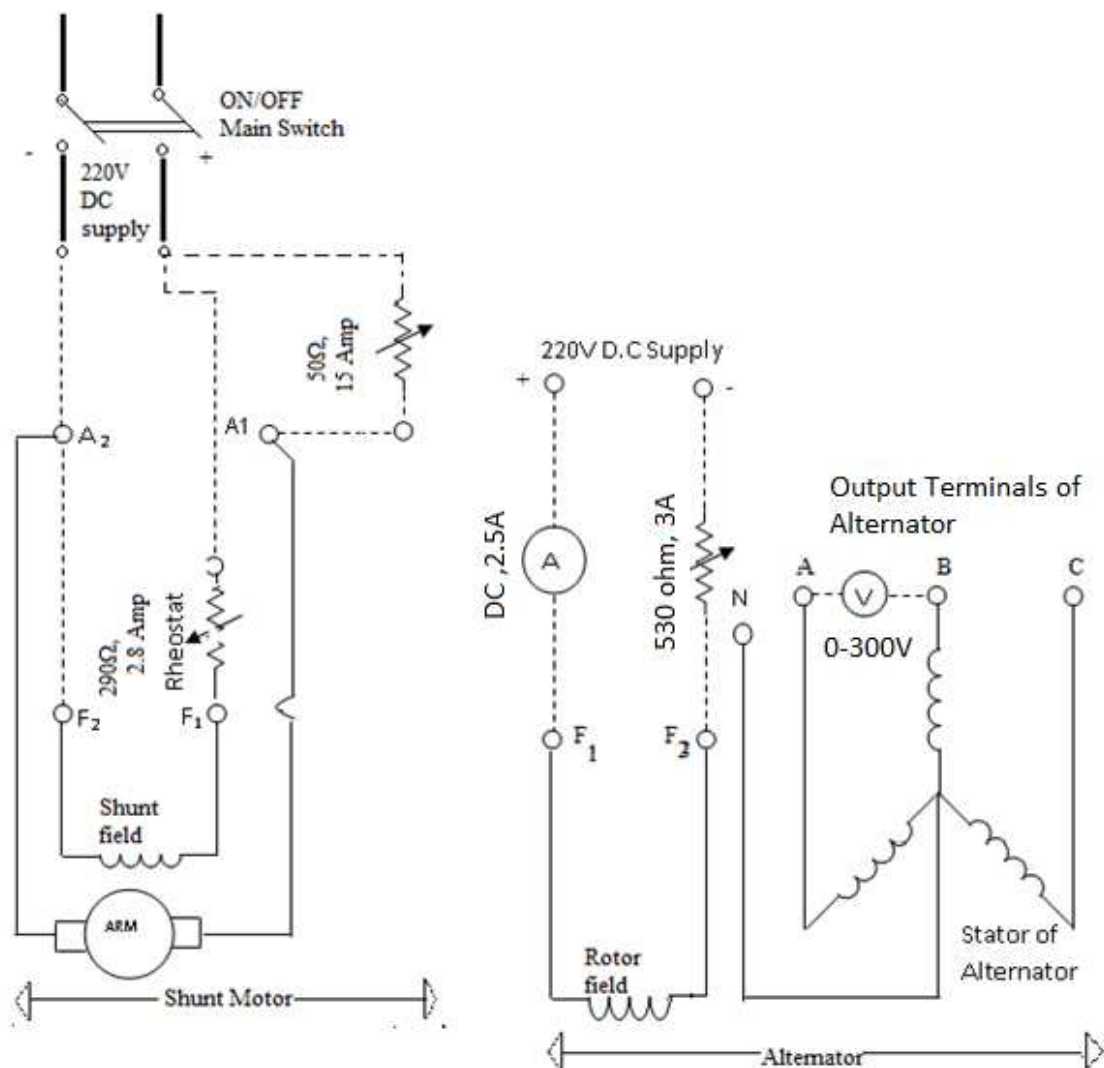

FIG 6.1 Circuit diagram of an alternator coupled with DC Shunt motor (Panel board diagram)
Synchronous impedance Z_s can be determined by open and short circuit tests on the generator. The generator is run at its rated speed. Open circuit characteristic (OCC) of generator is the plot of its terminal voltage against field current. This is also called the magnetization characteristic of the machine. Short circuit characteristic (SCC) is the plot of generator short circuit current versus field current. See Fig. 6.1. The synchronous impedance magnitude, Z_s neglecting saturation is
2. Make suitable connections as shown in Fig. 6.1 and get them checked.